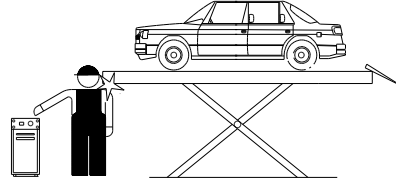

Fig.6
**RISICO'S VOOR BEDIENER (Fig.6)**